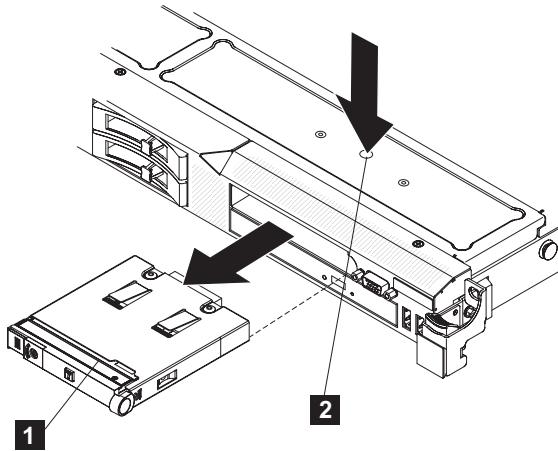

Figure 209. Using the release tab to remove the SAN Volume Controller 2145-CG8 or 2145-CF8 operator-information panel
7. Use an object to push down on the release tab (**2** in Figure 209).